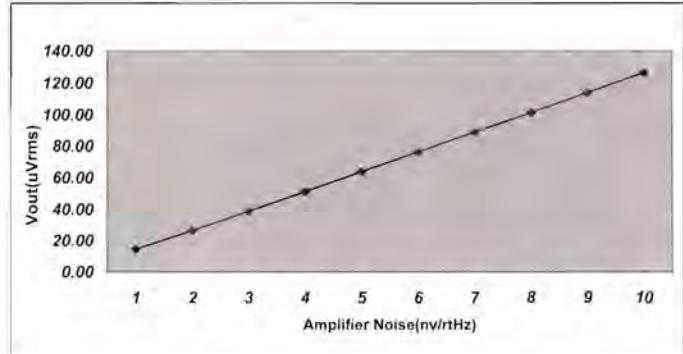

Figure 10: Optimised design for V_{out} vs noise. Following guidelines produces design for optimum noise performance
If you use the above guidelines, you will be able to optimise the circuit's noise performance, as shown in Figure 10. In this example, an amplifier with lower bandwidth (1MHz) is used, along with smaller resistors ($R_1 = 10\Omega$ and $R_2 = 1000\Omega$) and a lower gain (100). As an example, for a given 5mV of signal to measure, the output signal will be 500mV. Picking an amplifier that has a 5nV/rtHz of noise will generate 63.7mV rms or approximately 370 μ V peak-peak of noise. This allows the usage of a 12-bit ADC.